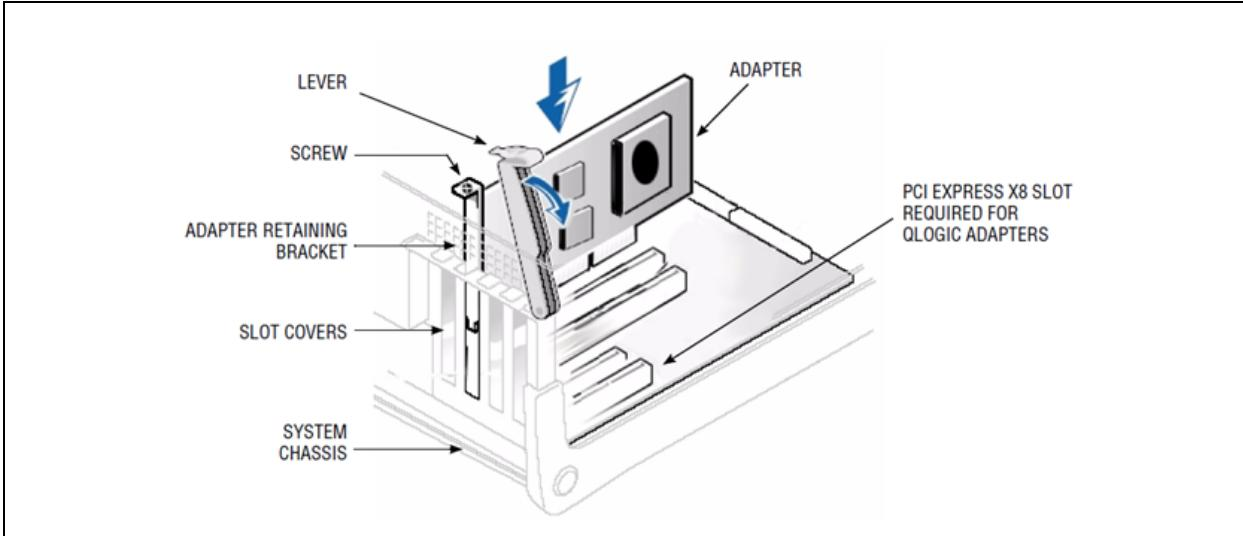

Figure 4-1. Adapter Hardware
6. Grasp the adapter by the top edge, and insert it firmly into the slot (Figure 4-1).